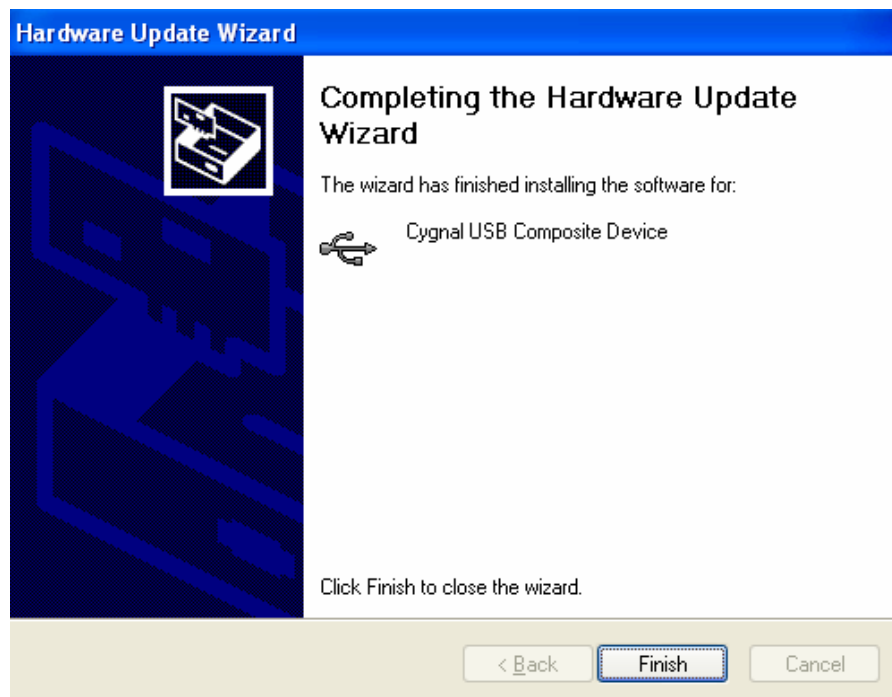

Figure 7
(7). Finish the installation, as shown in figure7.